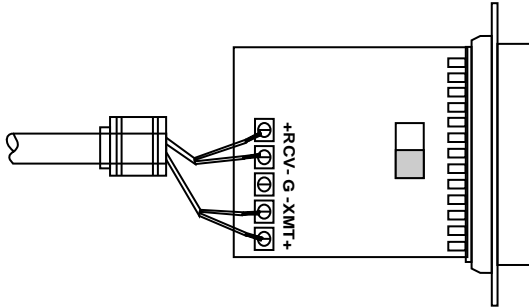

Figure 9: Re-connecting the Strain Relief Assembly
8. Place the 2 halves of the strain relief assembly on either side of the telephone wire and press together very lightly (See Figure 9, below). Slide the assembly so that it is about 2 inches from the terminal posts and press together firmly. If your cable diameter is too small or too large for our strain relief, please contact our technical support. We have strain relief assemblies to accommodate most cable diameters.